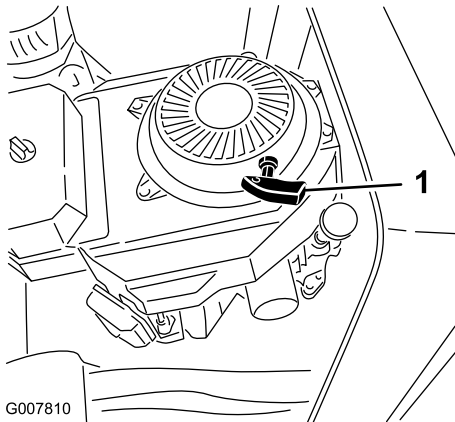

Figure 20
- For model 22970, turn the key to the On position then pull the recoil handle to start the engine (Figure 20).